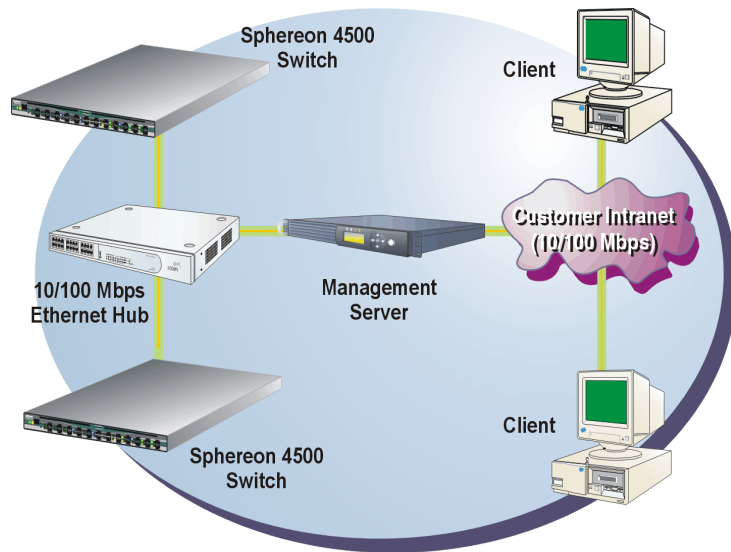

Figure 1-7 Typical Network Configuration (Two Ethernet Connections)
- Part of a second management server interface (LAN 1) that connects to a customer intranet and allows operation of the Sphereon 4500 Element Manager application from client PCs or workstations. Connection to this LAN segment is optional and depends on customer requirements. A network configuration using both Ethernet connections is shown in Figure 1-7.